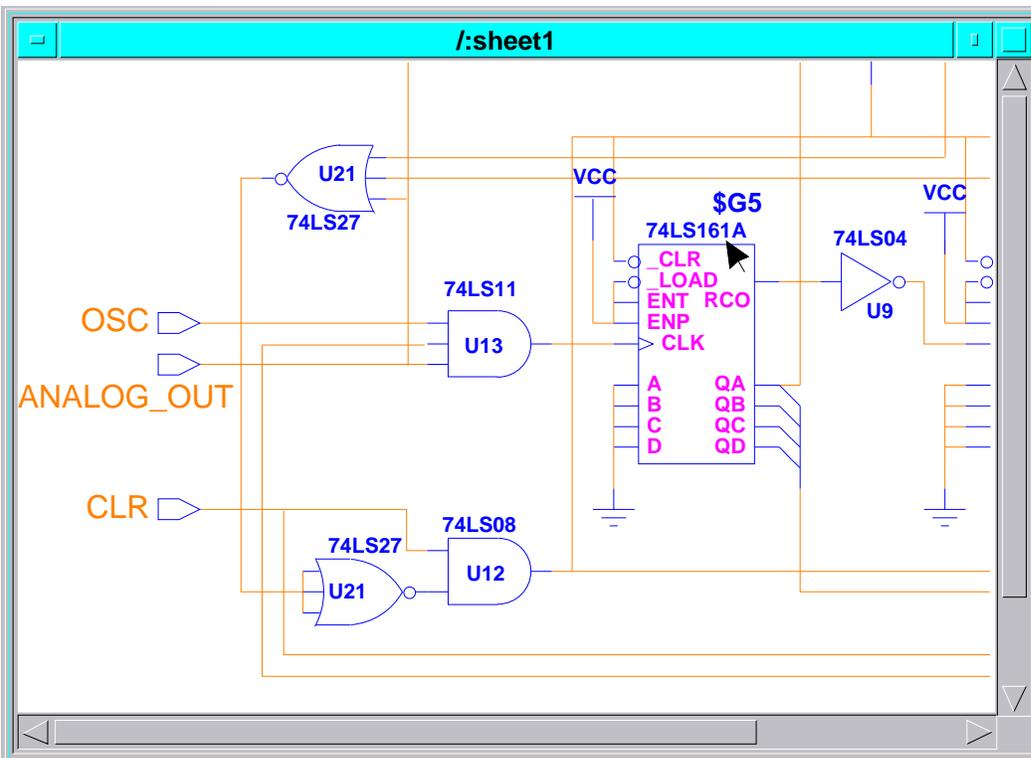

Figure 3-9. Instance on CARD_FREQ to Set Up
The targeted instance (the rectangular symbol labeled 74ls161a) is in the left half of the schematic, and is shown in Figure 3-9. Note that this instance is unique from others on the schematic because “\$G5” appears above the right corner.
- c. Position the graphics pointer as shown in Figure 3-9 and select the targeted instance by clicking the Select mouse button.